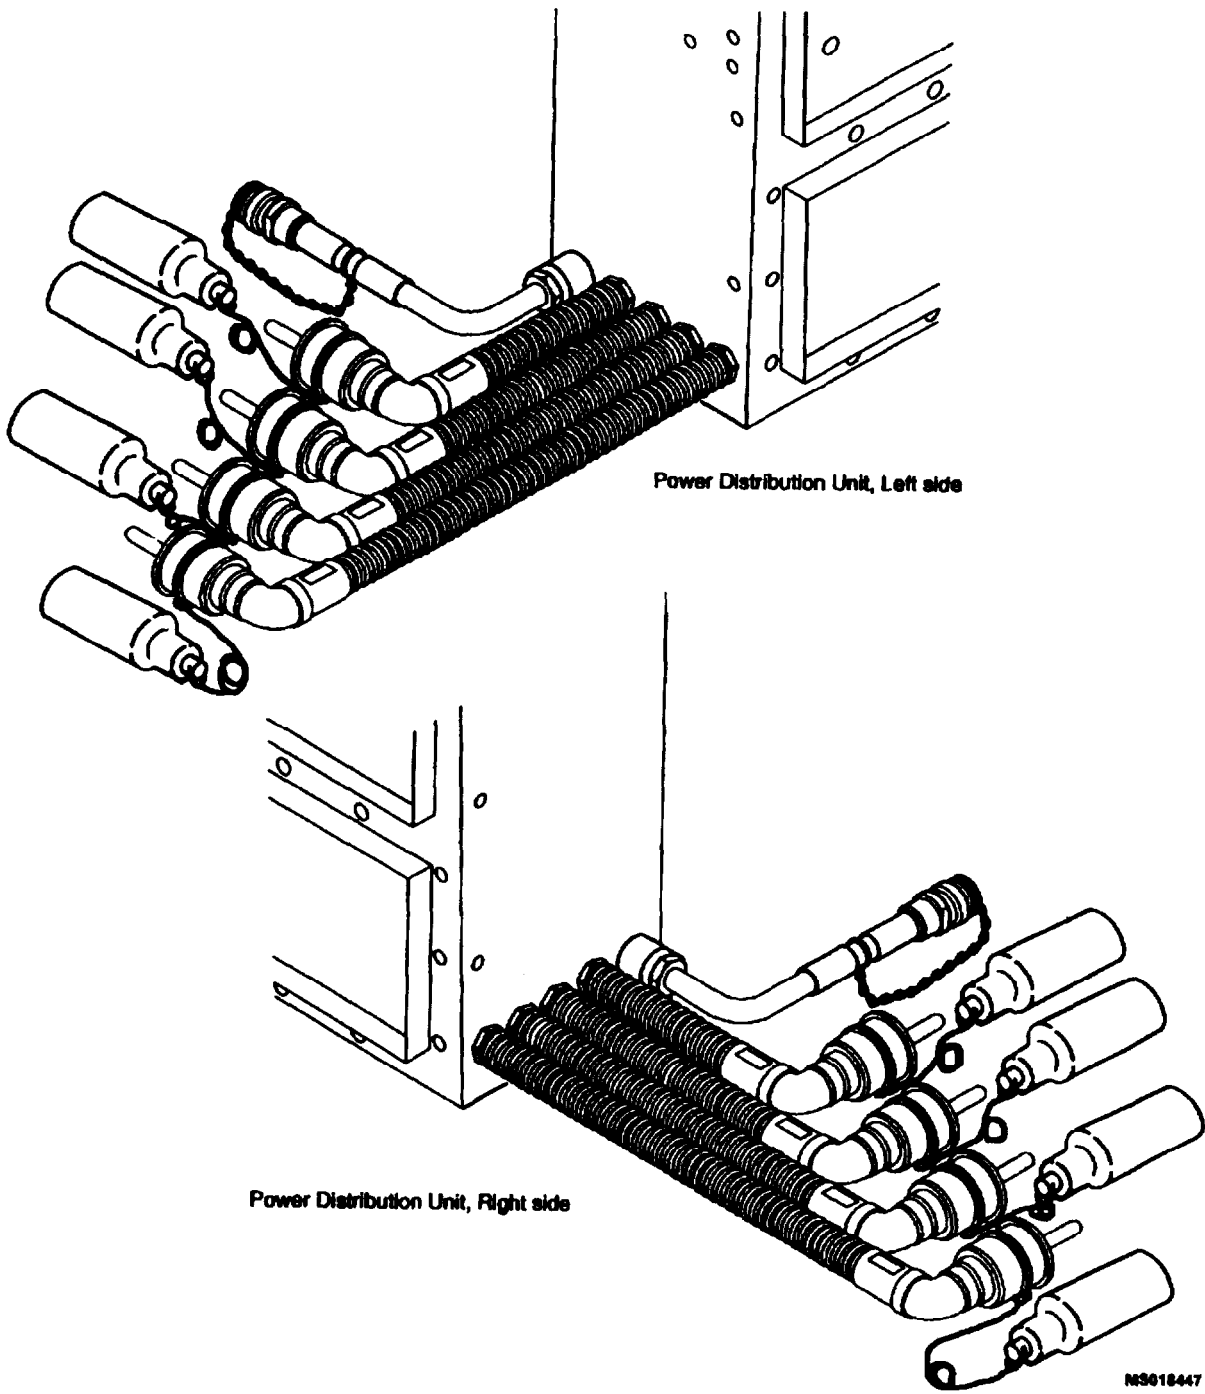

Figure 4-32 Power Distribution Unit, Mounted Parts.
- b. Check cables (figure 4-32) for loose plugs or damaged corrugated hoses.